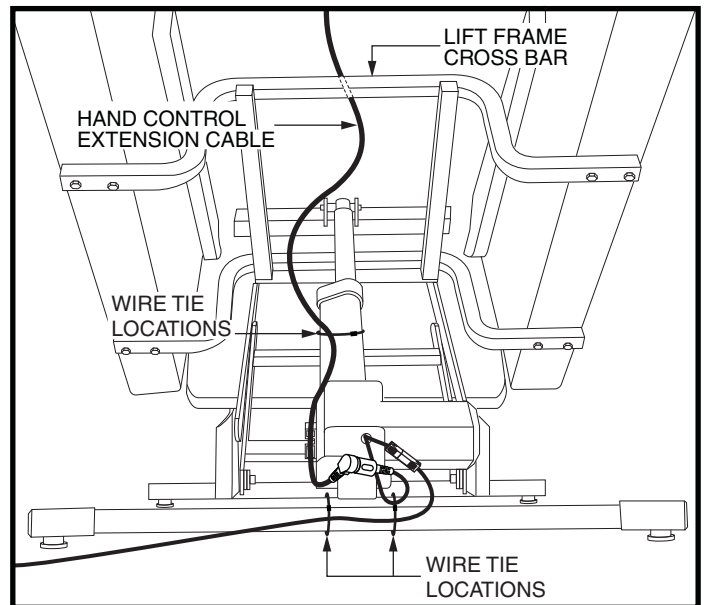

Figure 8. Securing the Wire Ties
16. Secure the hand control extension cable to the actuator and main frame with the supplied wire ties, then trim the excess from the wire ties. **See figure 8.**